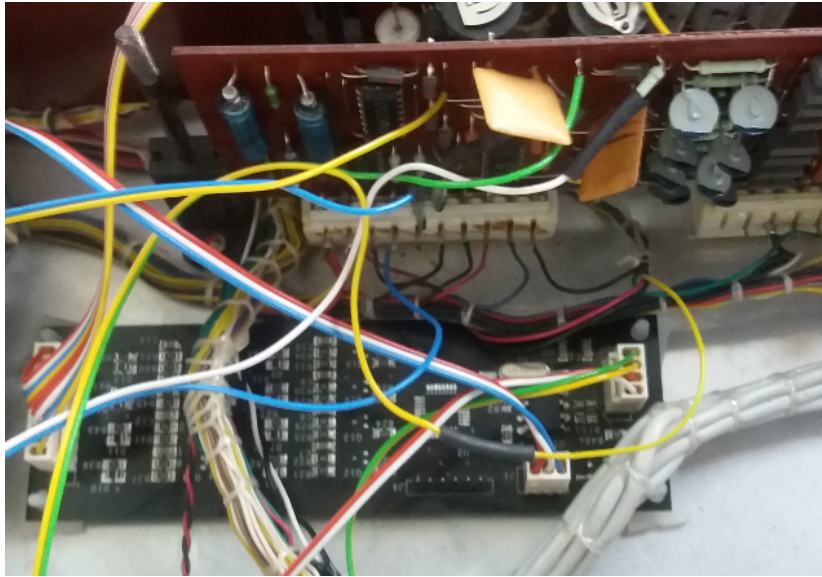

Figure 17: Detail from the step 5
5. Put one plastic tube on the desoldered wire from pin 28 in the previous step and solder this wire together with yellow wire (pin 7) of the switch. Solder blue wire (pin 4) to the free pin 28 of socket PCB R12. Detail is shown in figure 17.